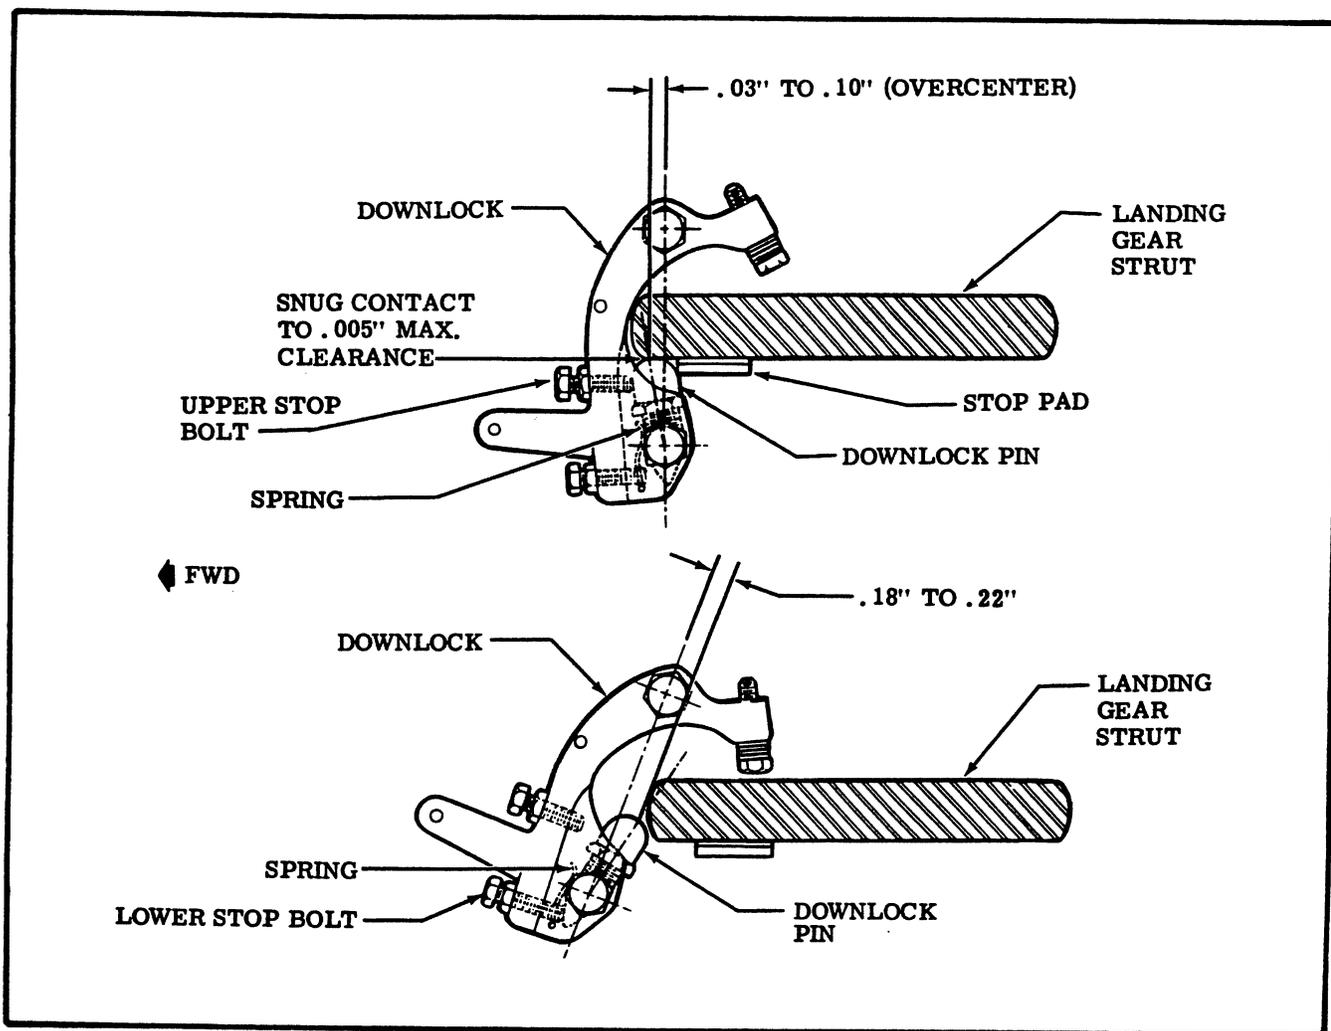

Figure 5-59. Rigging of Main Gear Downlock
c. Check that downlock pin reaches retracted position shown (.18" to .22"). Adjust lower stop bolt as required to obtain this position. (Refer to figure 5-59.)